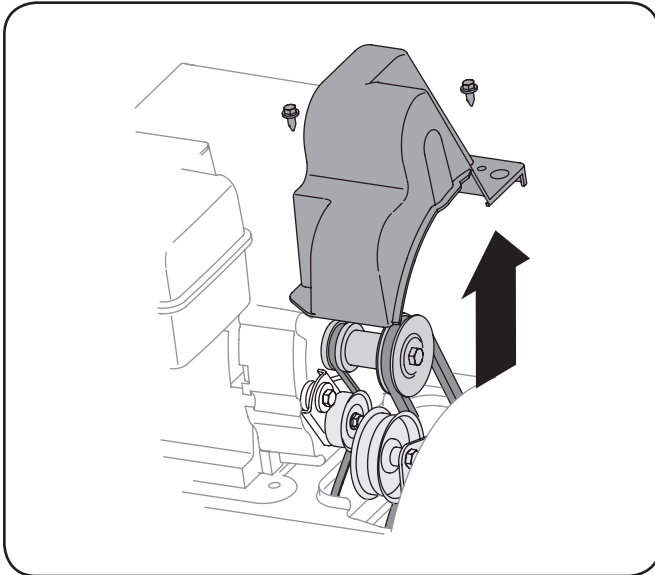

Figure 7-1
1. Remove the plastic belt cover at the front of the engine by removing the two self-tapping screws. See Fig. 7-1.
- Remove the plastic belt cover on the front of the engine by removing the two self-tapping screws. Ref. Fig. 7-1.